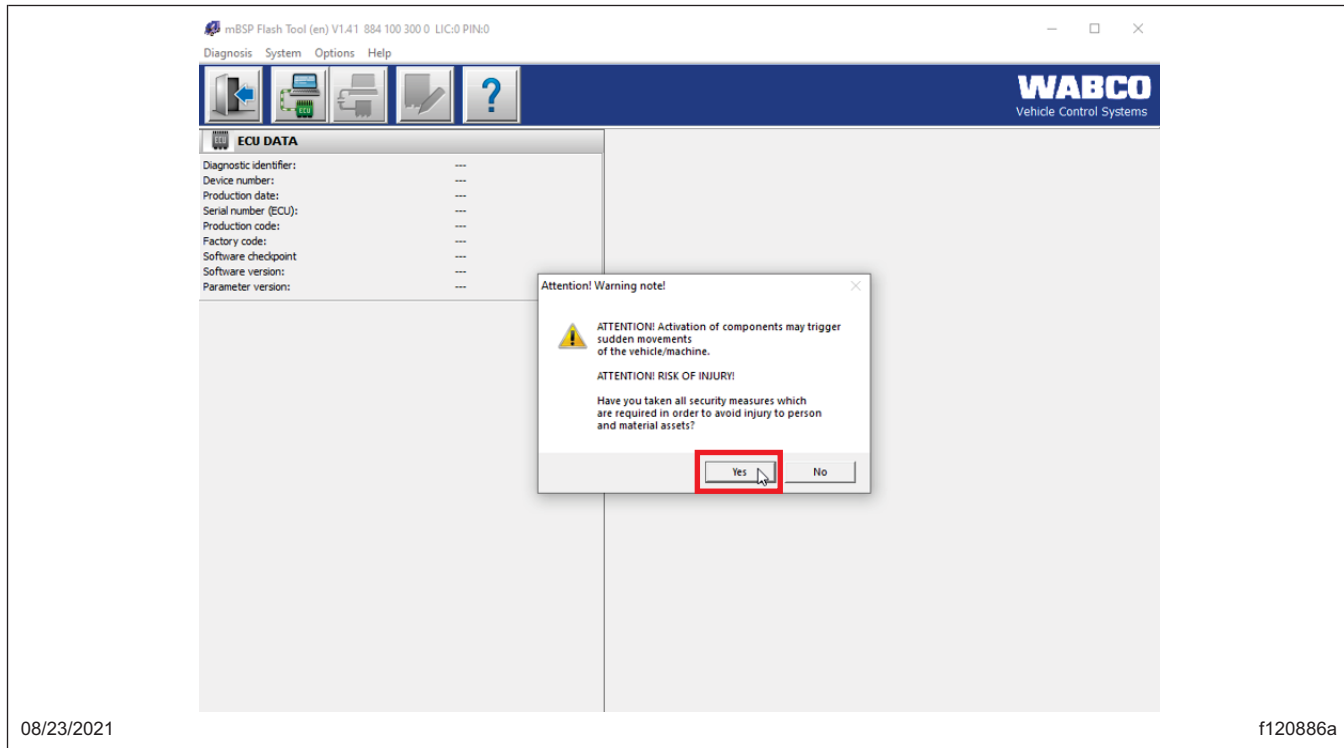

Fig. 4, Accepting the Warning
11. The program will open with a warning note. See **Fig. 4**. Read the warning note. If the vehicle is secure, select 'Yes.'